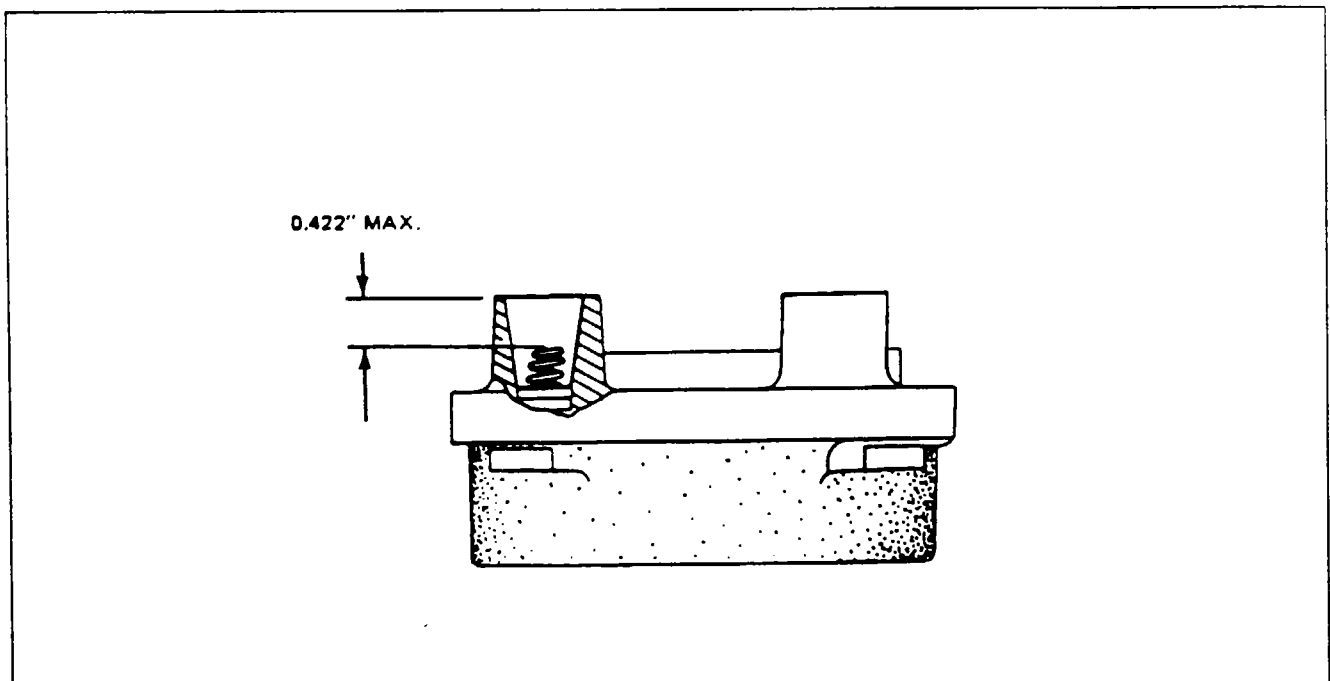

Figure 74-1. Height of Spring in Distributor Block Tower
4. Should this not be possible, a visual inspection may disclose the source of trouble. Remove the harness outlet plate from the magneto. Inspect for the presence of moisture and foreign matter on the rubber grommet and high tension outlet side of distributor block. Check height of block contact springs (0.422 max. from top of block tower to spring). Also check for broken leads or damaged insulation. If either is present, remove magneto and replace. (Refer to Figure 74-1.).